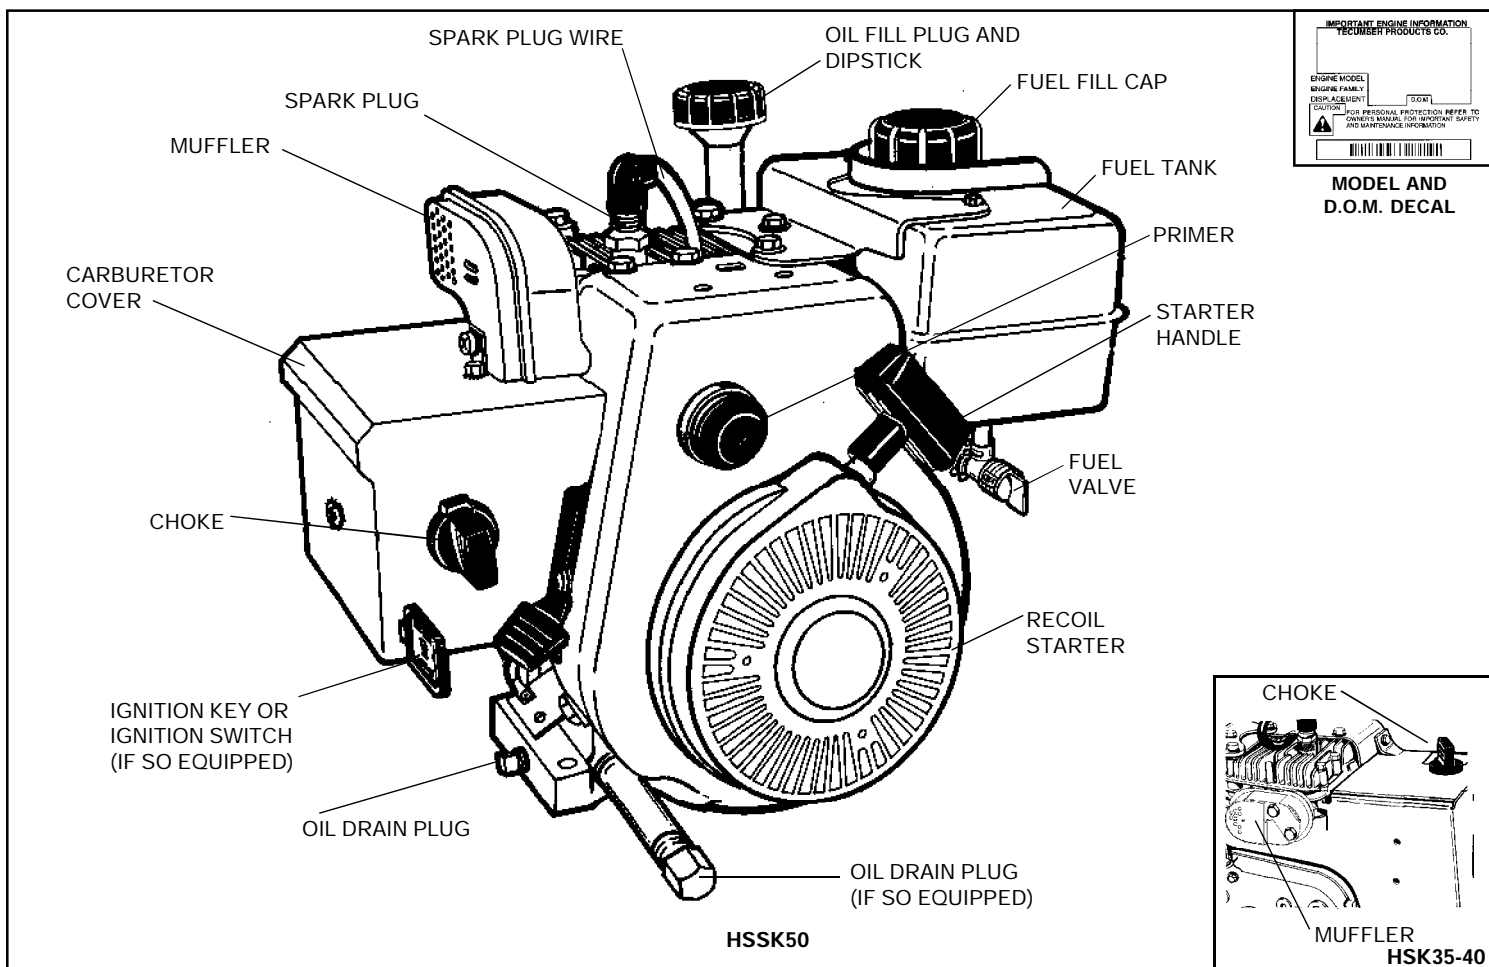

Figure 1
- B. Clean area around oil fill plug (see Figure 1).
- B. Be sure spark plug wire is attached to spark plug (see Figure 1).
- Ignition key (if so equipped see Figure 2) is inserted into ignition keyslot in carburetor cover (see Figure 1).
RECOIL STARTER (see Figure 1):
D. Grasp starter handle (see Figure 1) and pull rope out, slowly, until it pulls slightly harder. Let rope rewind slowly. Then pull rope with a rapid full arm stroke. Let rope return to starter slowly.